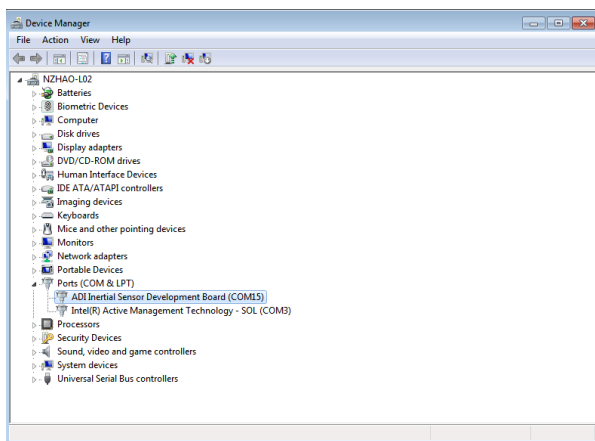

Figure 13. Device Manager Showing the COM Port Number
3. Expand the **Ports (COM & LTP)** menu item. **ADI Inertial Sensor Development Board** should be listed with an assigned COM port number in parenthesis (See Figure 13).
The **Device Manager** window should look like the window shown in Figure 13.